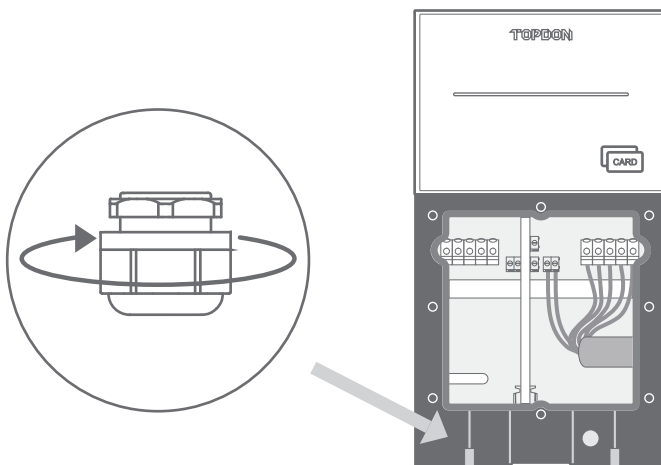

Fig. 5-13
4. Remove the gland at the bottom right of the charger. You can use a large wrench if needed. (See Fig. 5-13)